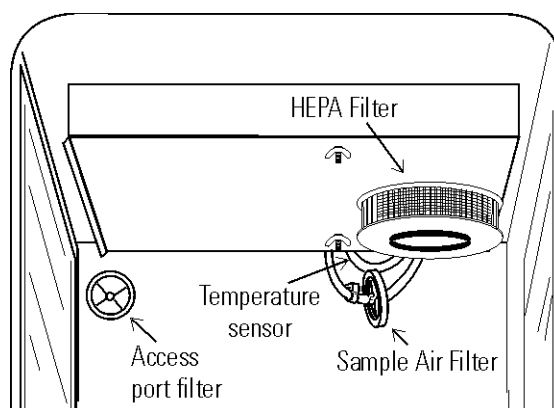

Figure 1-9. Filter and Sensor Locations
Locate the opening in the top left corner on the inside of the chamber. Remove the tape covering the opening on the outside of the unit. Locate the stopper with filter in the hardware bag. Install the assembly in the opening inside the chamber. See Figure 1-9.
3. Install the filter as shown in Figure 1-9. Refer to Section 5 for HEPA filter maintenance.